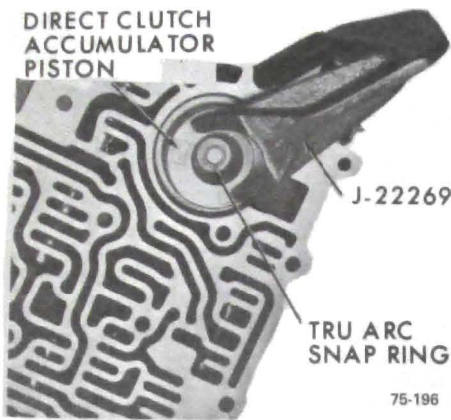

Figure 75-230
a. Disassembly of Valve Body (Refer to Figure 75-230)
4. From the next bore (B), remove the 2-3 shift valve train retaining pin, sleeve, control valve spring, 2-3 shift control valve, shift valve spring, and the 2-3 shift valve.
5. From the next bore (C), remove the 1-2 shift valve train retaining pin, sleeve, shift control valve spring, 1-2 shift control valve, and the 1-2 shift valve.
6. From the next bore (E), remove retaining pin, plug, manual low control valve spring, and the manual low control valve.
7. From the next bore (F), remove
the retaining pin, spring, seat, and the detent regulator valve. 8. Install Tool J-22269, on direct clutch accumulator piston and remove retaining "E" ring. (G) See Figure 75-230.
9. Remove direct clutch accumulator piston, and metal oil seal ring, and spring. (G)
10. From the next bore down (D) from the direct clutch accumulator, remove the detent actuating lever bracket bolt, bracket, actuating lever and retaining pin, stop, spring retainer, seat, outer spring, inner spring, washer and the detent valve.
2. Install special tool J-22269 on direct clutch accumulator piston and compress spring and piston and secure with retaining ring. See Figure 75-230.